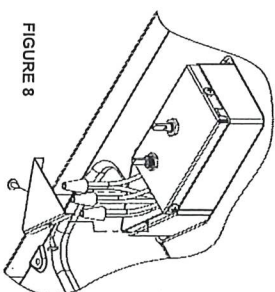

FIGURE 8
- Connect the supply power black conductor to the black pigtail wire, the white conductor to the white pigtail wire and the supply ground conductor to the green pigtail wire found in the wiring box using the 3 provided wire nuts. Using a U.L. approved electrical tape, secure the wire nuts to wires in a workmanlike manner (See Figure 8).
- Press supply conductors and wire nuts into wiring box and making sure no wires are pinched, secure the wire box cover with 2 provided screws (See Figure 8).